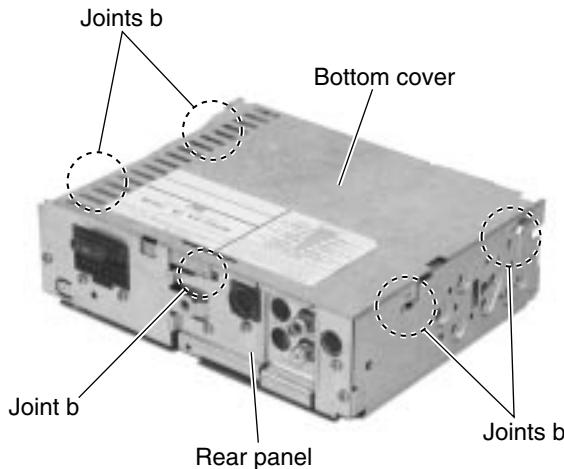

Fig.5
(See Fig.5 and 6)
■ Removing the load arm (See Fig.5)